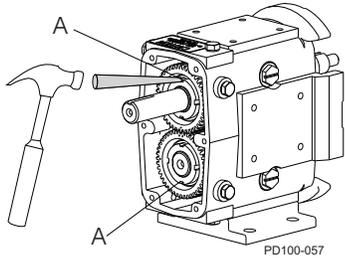

Figure 93 - Bend Locking Tab
- Bend the locking tab (Figure 93, item A) on the lock washers into the locking nut slots, securing the gear locknut into place.